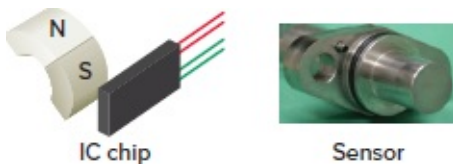

Figure 4-51 Hall effect sensor.
Hall effect sensors are used to detect the proximity and strength of a magnetic field. When a current-carrying conductor is placed into a magnetic field, a voltage will be generated perpendicular to both the current and the field. This principle is known as the Hall effect. A Hall effect sensor switch is constructed from a small integrated circuit (IC) chip like that shown in Figure 4-51. A permanent magnet or electromagnet is used to trigger the sensor on and off. The sensor is off with no magnetic field and triggered on in the presence of a magnetic field. Hall effect sensors are designed in a variety of body styles. Selection of a sensor based on body style will vary by application.